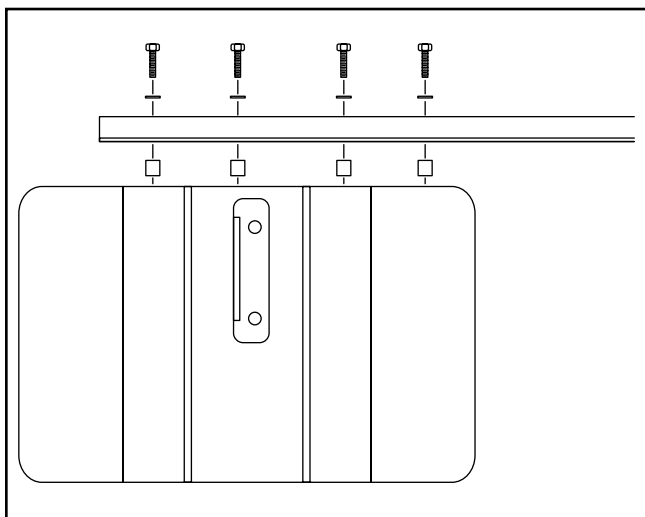

Figure 9. Rear rail attachment procedure.
2. Attach the rear rail (the shorter of the two rails) to the table top using the spacers, hex bolts and lock washers supplied, as shown in **Figure 9**. Use an adjustable square set to $\frac{15}{32}$ " to measure the rail so it is consistently $\frac{15}{32}$ " below the top of the table.